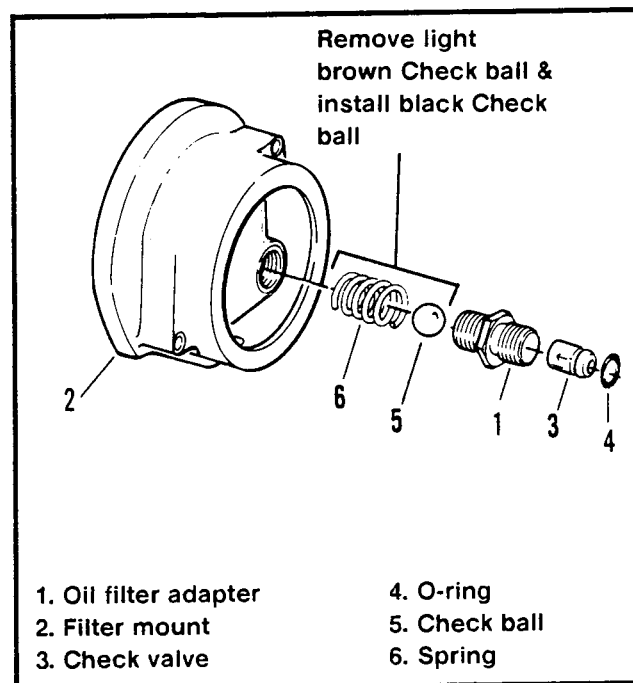

Figure 1. Either
See Figure 1. Remove the light brown check ball (5). Install new (black) check ball (5).